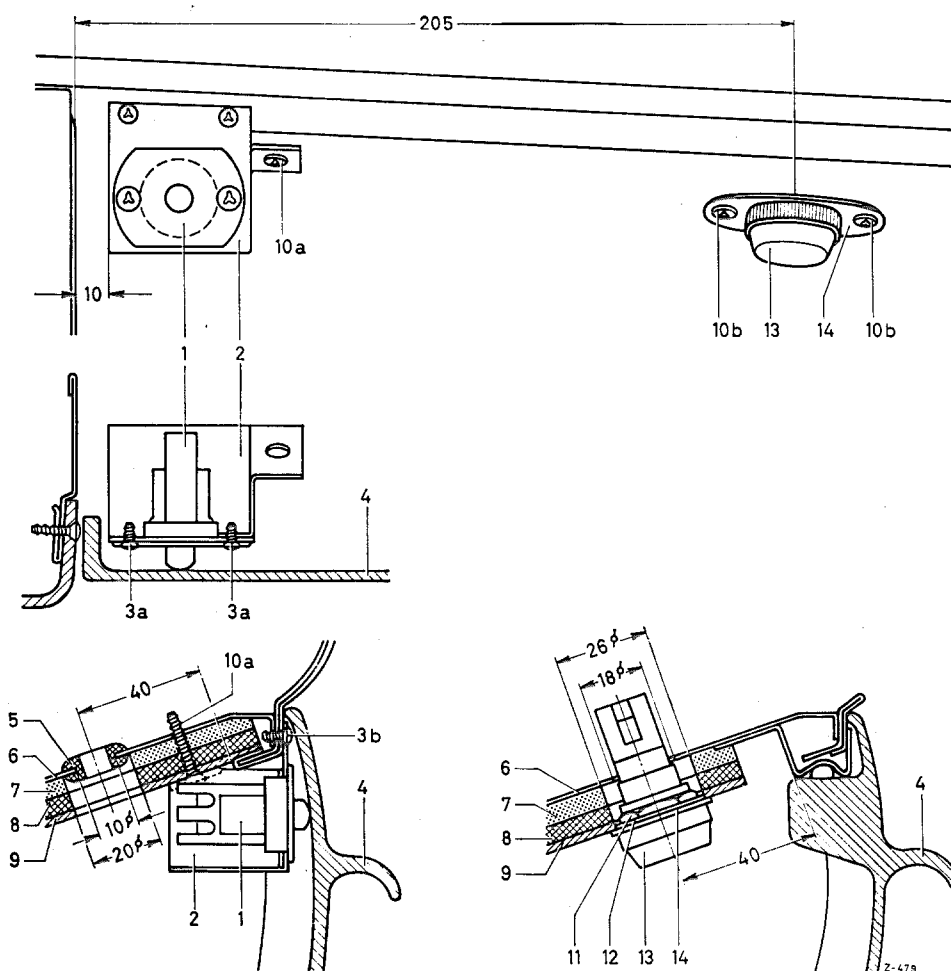

Fig. 68—4/3
2. In accordance with the specified dimensions mark the bore for the installation of the glove compartment light (13) and the bore for the rubber grommet (5) for the cable from the contact switch to the glove compartment light at the insulating cardboard (9) (see Fig. 68—4/3).
4. Remove the insulating cardboard (9) and cut the bores out of the insulating cardboard in accordance with the specified dimensions (see Fig. 68—4/3).
5. In accordance with the given dimensions mark on the body panel (6) (see Fig. 68—4/3) the bore for the installation of the glove compartment light (13) and the bore for the rubber grommet (5) for the cable from the contact switch to the glove compartment light.
6. Use a suitable corner drill and a tool of approx. 10 mm  $\phi$  to drill the two bores in the body panel (6) (see Fig. 68 — 4/3).
7. Enlarge the bore for the glove compartment light (13) in the body panel (6) to 18 mm  $\phi$ .
8. Deburr the bores and install the rubber grommet (5) in the 10 mm  $\phi$  bore for the cable.
9. Install the insulating cardboard (9).
10. Hold the bracket (2) for the contact switch (1) at the ornamental cover at the specified distance of 10 mm and mark the three fixing holes (see Fig. 68 — 4/3).